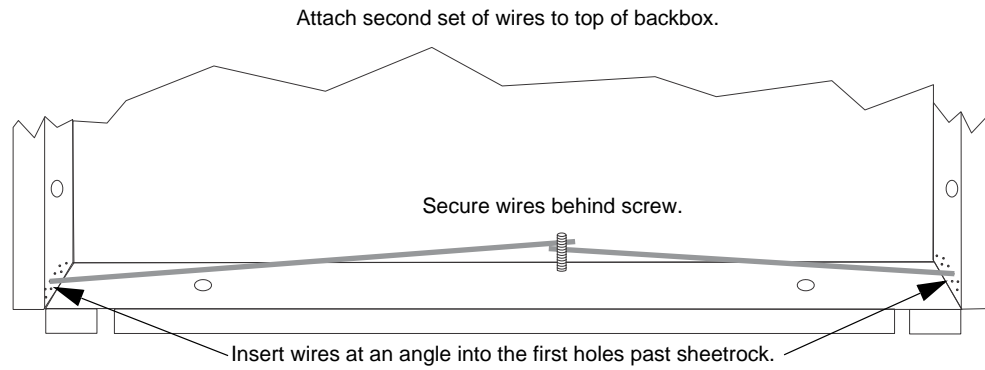

Figure 4.15 Flush Mounting the Backbox
3. Fit the annunciator backbox into the hole and stabilize with mounting wires. Angle the mounting wires into the first hole past the sheet rock. Secure the wires behind the screws as shown in Figure 4.15. When all four wires are in place, the backbox should fit snugly into the hole in the sheetrock.